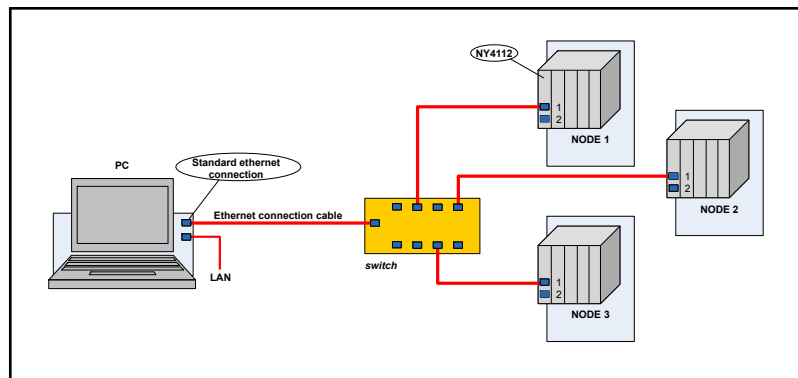

Fig. 2-14: Connection between PC and nodes with a switch (for configuration)
2. Use a switch between the PC and all MCUs and do the configuration steps. A daisy-chain configuration is not possible, because ETH2 is non-functional on a factory-new NY4112 MCU. The switch is needed to connect all nodes. Every node is connected to a port on the switch with a standard ethernet cable, see fig. 2-14 "Connection between PC and nodes with a switch \(for configuration\)" on page 22. If this configuration does not match the configuration in the machine, you must setup this configuration separately. The switch does not need to support IEEE1588 for configuration in this (separate) configuration setup.